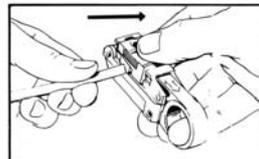

Figure 8
G. Moves slide back one position. Then pull cable out carefully while squeezing tool (Fig. 8). If there is too much resistance or strip is imperfect, go to step "H".